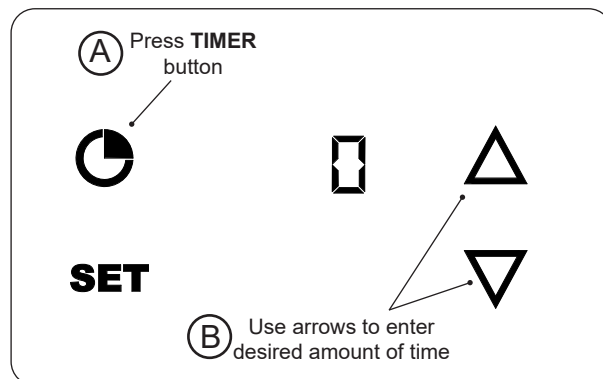

Fig. 42-1 Set timer
1. With the thermometer/thermostat **on**, press the **TIMER** button once (Fig. 42-1, A). A zero will display indicating that no timer is set.
2. Press the **UP** or **DOWN** arrows to enter the desired amount of time (Fig. 42-1, B).